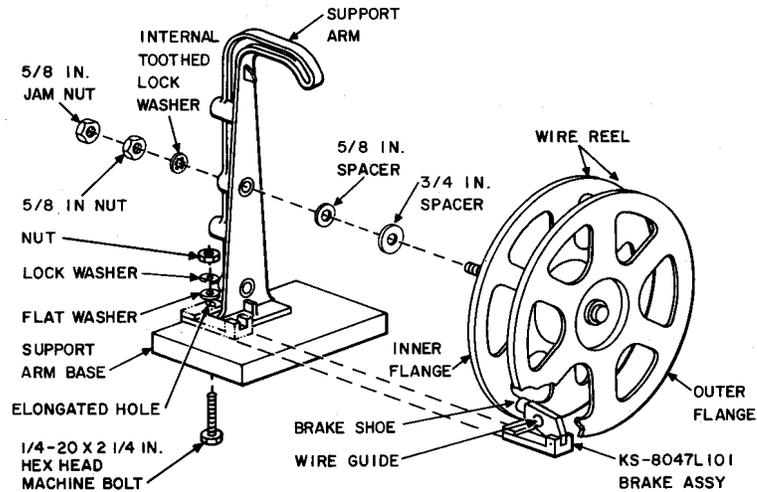
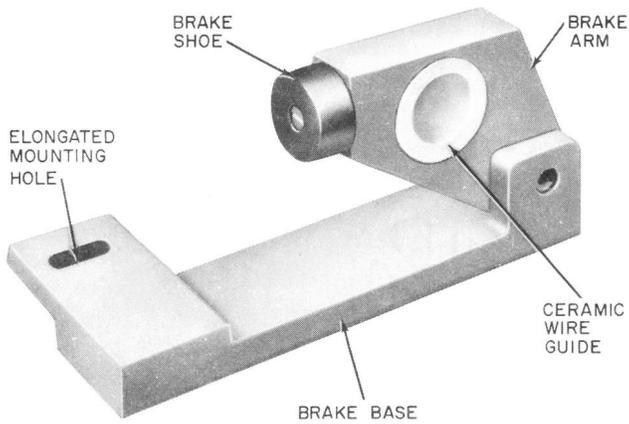

Fig. 3—Installation of KS-8047 L101 Automatic Brake Kit
Fig. 4—KS-8047 L101 Brake
(a) Removal of the Drag Brake (Fig. 3)
(b) Preparation of Wire Reel for Brake Kit (Fig. 3)
- (1) Remove the wood screw that holds the left side of the support arm to the base; discard this screw.
- (2) Drill a 1/4-inch diameter hole through the wood base where the wood screw was removed.
- (3) Place the L101 brake (Fig. 4) over the support arm base, as shown in phantom in Fig. 3. Align the slotted hole in the brake assembly over the hole in the support arm, and insert the 1/4- by 2-1/4 inch machine bolt from the bottom up with the bolt head under the wood base and the nut with flat washer and lockwasher on top of the brake.
- (4) For frame-mounted wire reels without the wood base, use the 1/4-20 by 1-inch hex cap screw, plain washer, lockwasher, and nut provided to fasten the brake to the support arm base.
- (5) Because the inside reel flange may be warped, rotate the reel to the spot where the brake shoe is in best contact with the reel flange. With the brake shoe flush against the inner flange, secure the brake assembly using the flat washer, lockwasher, and nut provided.
- (c) **Installation of the KS-8047 L101 Brake (Fig. 3)**